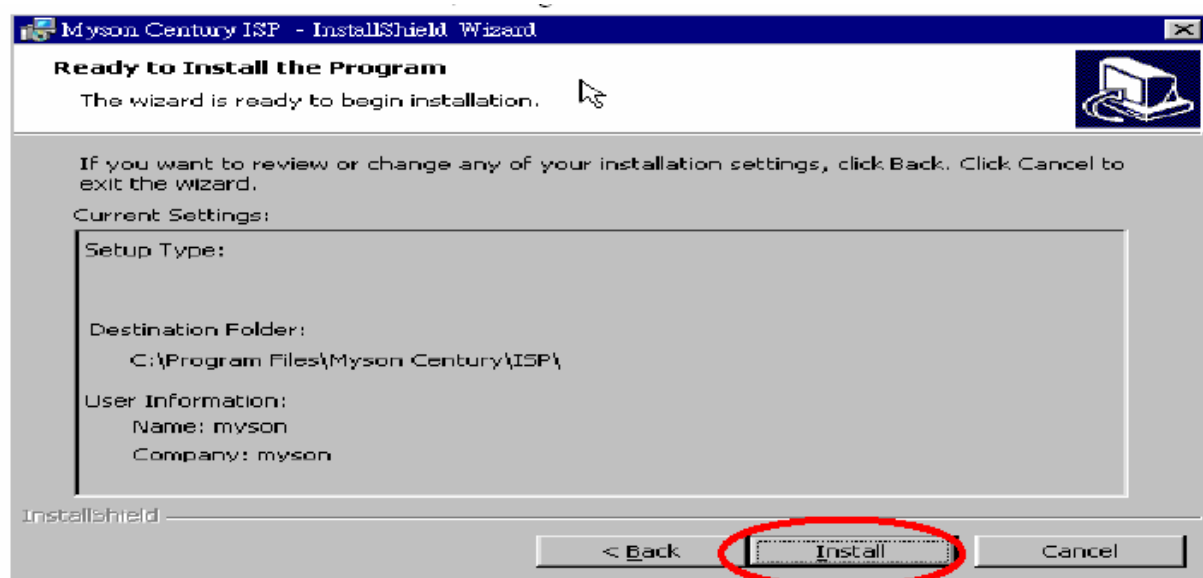

Fig 1.5
1.5 Press “ Install “ button to continue , see Fig 1.5